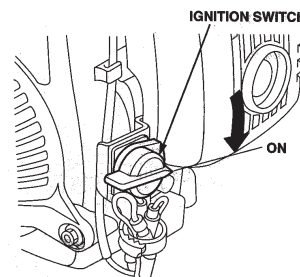

Figure 12. Ignition ON/OFF Switch (ON Position)
4. Place the *Ignition ON/OFF switch* (Figure 12) in the "ON" position.